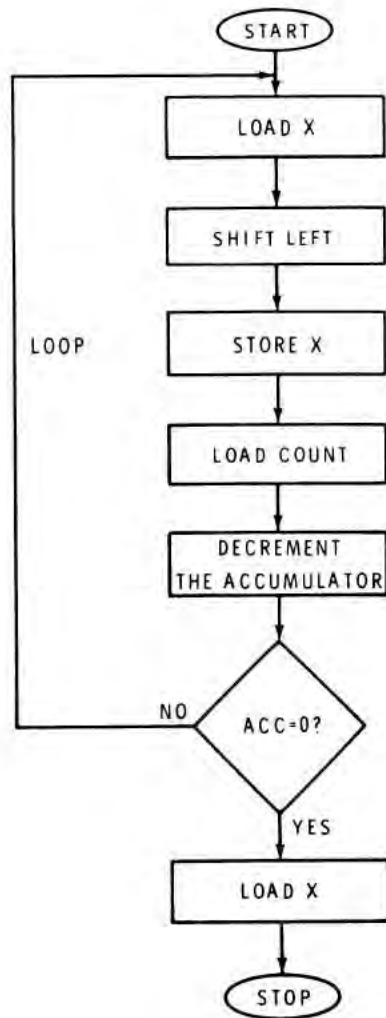

Figure 6-32
45. The flow chart in Figure 6-32 shows one method of multiplying the content of location 22 (X) by 8. The program is given below.